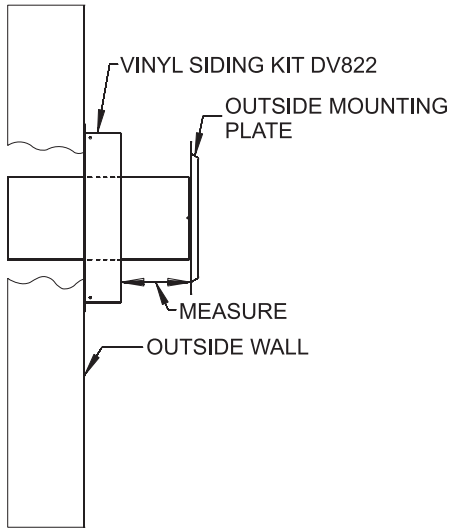

Figure 64
6. With the vinyl siding kit installed to wall (if necessary), insert the 6-5/8 inch diameter tube with outside mounting plate attached through hole in wall. Connect to collar on fireplace or rigid vent system. Measure between wall or vent cap extension and outside mounting plate (Figures 64 and 65).